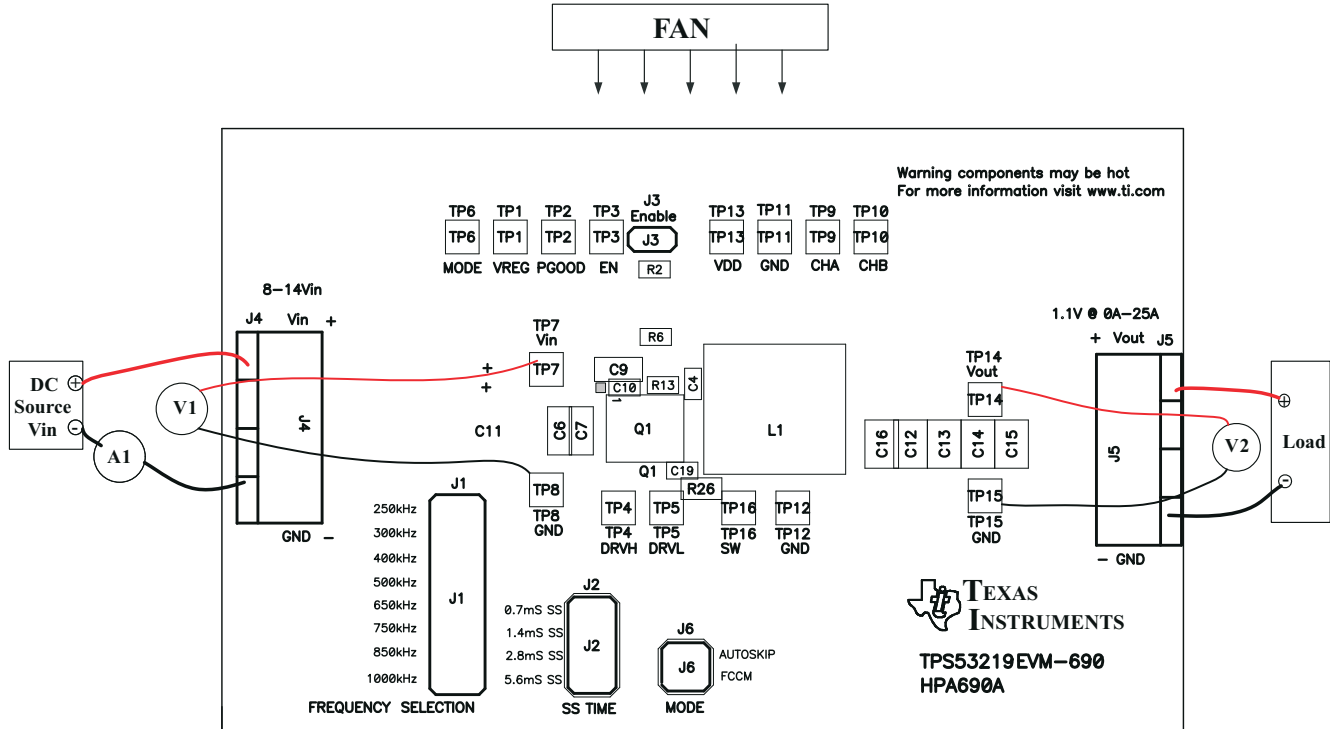

Figure 4-2. TPS53219EVM-690 Recommended Test Setup
Voltage Source: The input voltage source V_{IN} must be a 0-V to 14-V variable DC source capable of supplying 10 A_{DC}. Connect VIN to J4 as shown in Figure 4-2.
Figure 4-2 is the recommended test setup to evaluate the TPS53219EVM-690. Working at an ESD workstation, make sure that any wrist straps, bootstraps, or mats are connected referencing the user to earth ground before power is applied to the EVM.
1. Prior to connecting the DC input source V_{IN} , it is advisable to limit the source current from V_{IN} to 10-A maximum. Ensure that V_{IN} is initially set to 0 V and connected as shown in Figure 4-2.
Place a fan as shown in Figure 4-2 and turn on, ensuring that air is flowing across the EVM.
1. Set up EVM as described in Section 4 and Figure 4-2.